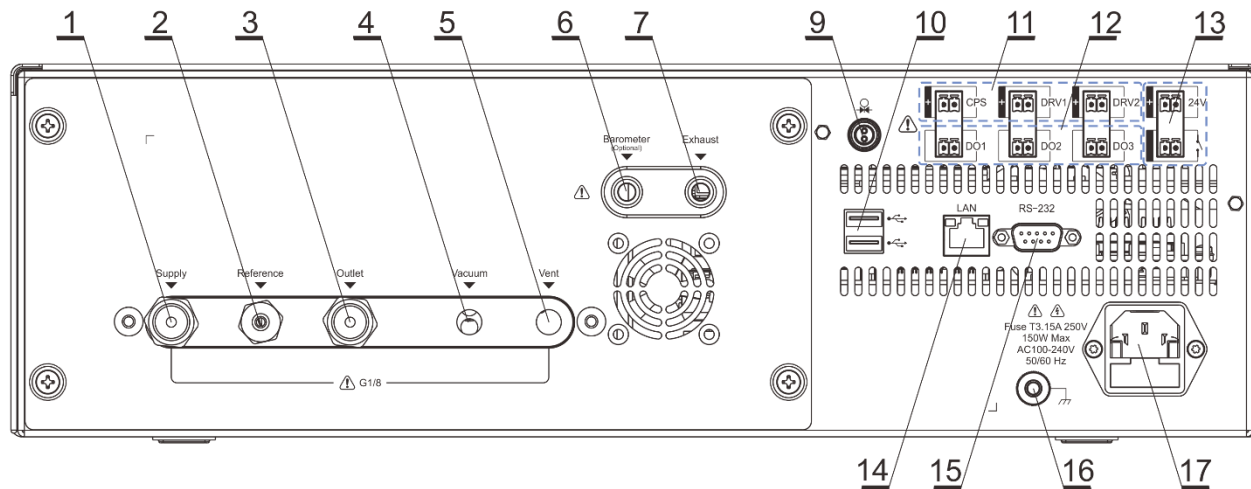

Figure 4 Additel773/783back panel
- ◆ Fill medium: rotate the vent valve of the liquid reservoir first, remove the vent valve and then fill in the required working medium, as shown in Figure 4 for the liquid filling operation. The height of the medium needs to be between the Min and Max mark lines;